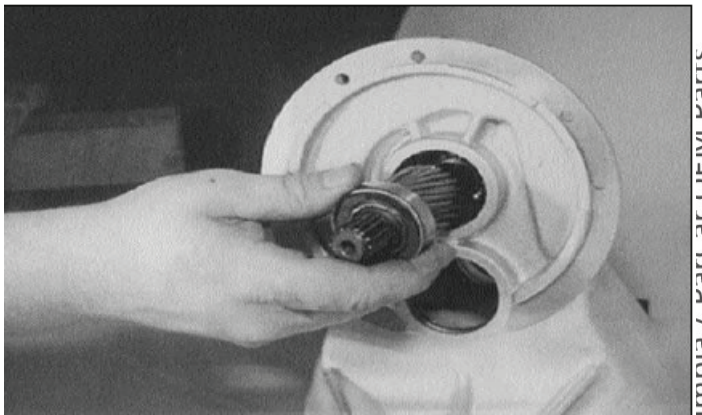

Figure 7-20. Intermediate Shaft & Bearing
assembly should slide out easily. If resistance is encountered, a slide hammer may be required. See Figure 7-20.
4. Install input shaft (12). Bearings (13, 15) and shaft should slide easily into housing. If resistance is encountered, use a plastic or leather mallet to tap shaft into position. See Figure 7-20.